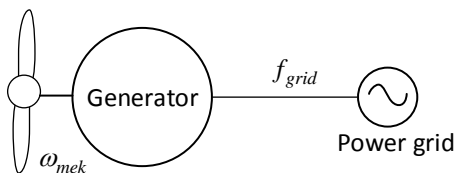

Figure 3: Wind turbine generator connected to a power grid
A wind turbine generator is directly connected to a power grid with fixed frequency $f_{grid} = 50$ Hz as shown in Figure 3. The system does not have any mechanical gear, but the generator is equipped with an unknown number of poles. ω_{mek} is the mechanical speed of the turbine and generator.
- d) Assume $\omega_{mek} = 7.85$ rad/s and wind speed $v = 6$ m/s. Explain why the wind turbine configuration in Figure 3 is not optimal if the goal is to produce as much power as possible.